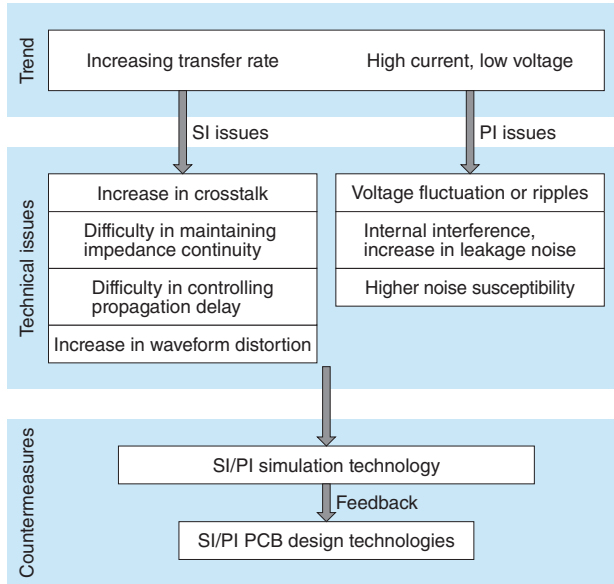

Fig. 3 Technical Issues on SI and PI
cannot effectively solve Signal Integrity (SI) and Power Integrity (PI)-related issues. Fig. 3 shows technical challenges relating to SI and PI.